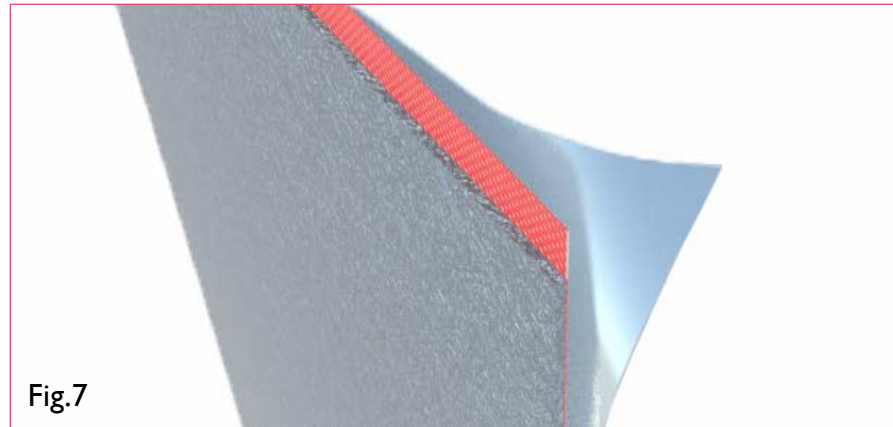

Fig.7
3. Starting at a corner, peel back release paper by approx. 150mm. (Fig.7)